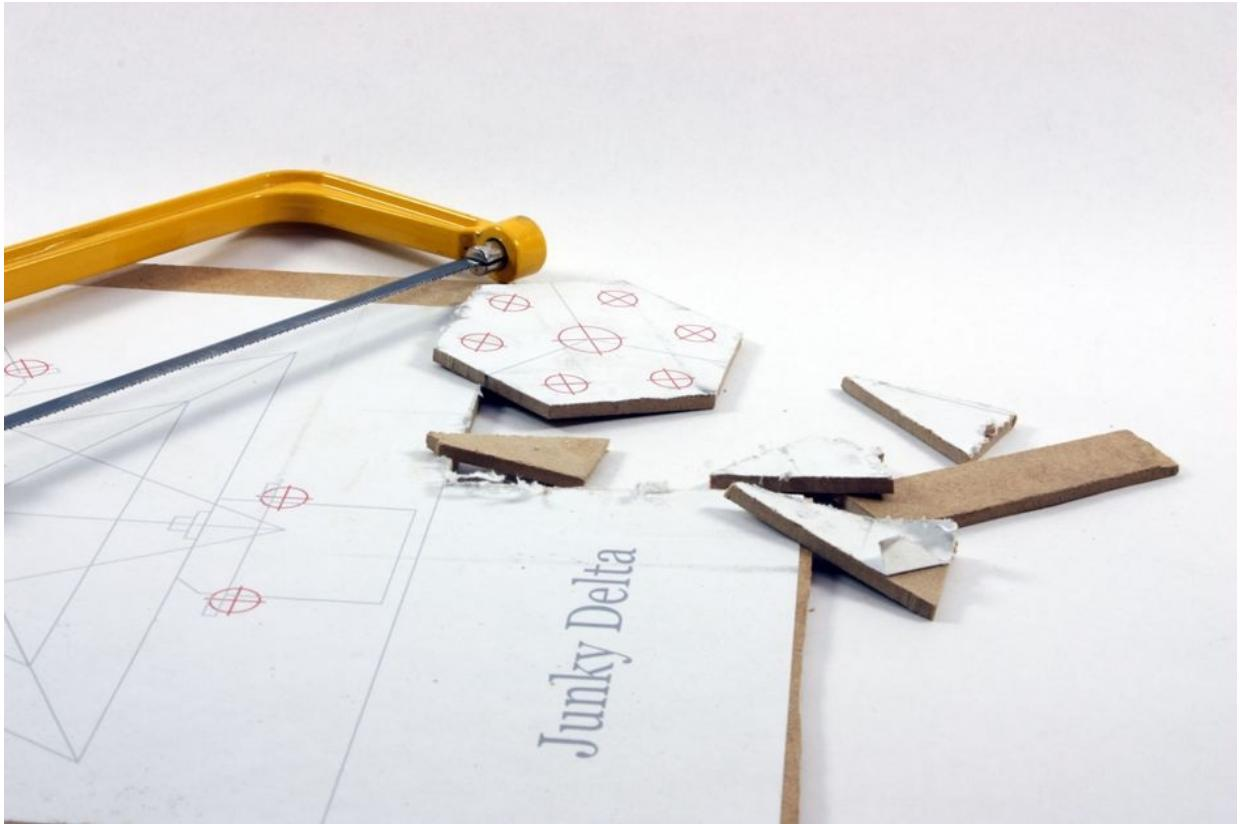

Figure 13-6. Cutting hardboard
3. Get the template PDF file from the GitHub repository, print it out, and affix it to the hardboard. Now cut out the end effector and the extra bits from the board using your saw (see Figure 13-6). You don't have to be fancy and cut out the hexagon — you can make it square or circular (you can use a large hole saw) and it will work just as well.